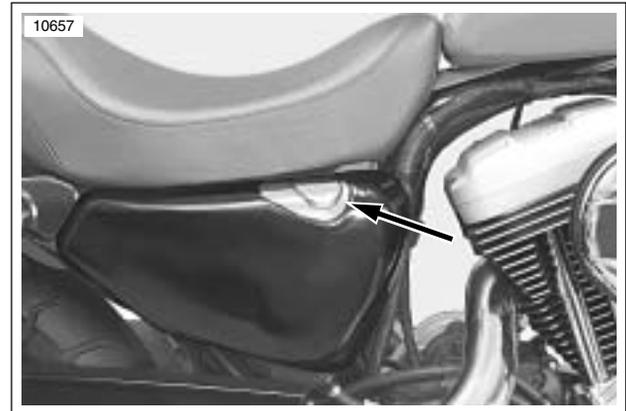

Figure 1-1. Filler Cap/Dipstick Location
- See Figure 1-1. Remove filler cap from oil tank on right side of vehicle.